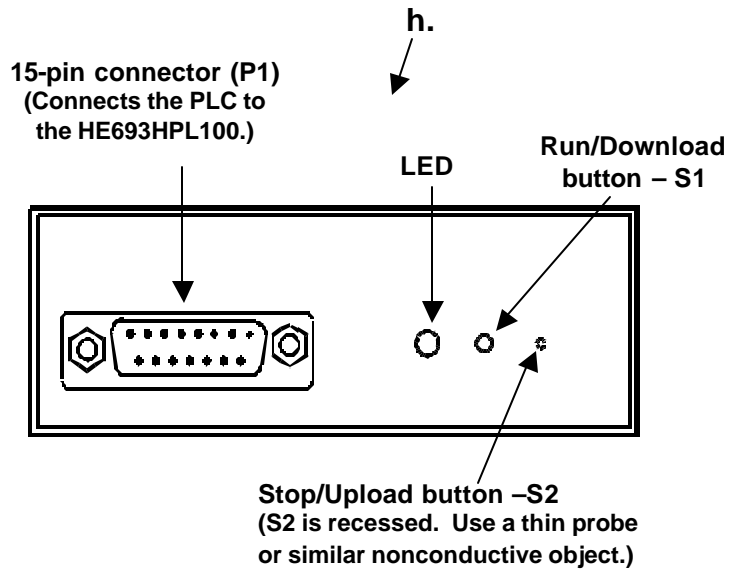

Figure 2.2 – Top View of HE690HPL100
- b. Connect the HE690HPL100 to the PLC by inserting an RS-422 cable into HE690HPL100 (P1). (Figure 2.2). Wait for a power-up status indication on the LED (Figure 2.2) as described in Table 2.1. It may take a couple of seconds for HE690HPL100 to provide the power-up status as it tries to setup communication with the PLC. **Go to Step 2.**
- c. Connect the HE690HPL100 to the PLC by inserting an RS-422 cable into HE690HPL100 (P1). (Figure 2.2).
- d. Press the GO or RUN/Download button (S1) and **hold down** while switching the PLC to “On.” Continue holding down S1 until the LED **blinks green**. Then, release S1. Wait for a Power-up Status indication on LED (Figure 2.2) as described in Table 2.1. It may take a couple of seconds for HE690HPL100 to provide the power-up status as it tries to setup communication with the PLC. **Go to Step 2.**
2. Wait for a Power-up Status indication on the LED (Figure 2.2) as described in Table 2.1.
Simply **press the Stop/Upload button (S2) and release**. The user needs to use a thin probe (or a similar nonconductive object) to press S2, because S2 is recessed. (Refer to Figure 2.2.). The status LED will show Operation in Progress (solid orange). Do ***not*** remove PC card when download operation is in progress. In this case, the program will be stored into RAM when it is eventually downloaded using a download operation. **Go to Step 4.**
Simply **press Stop/Upload button (S2) and hold until LED blinks orange (takes approximately 3 seconds)**. The user needs to use a thin probe (or a similar nonconductive object) to press S2, because S2 is recessed. (Refer to Figure 2.2.) If the button is released **before** the orange blink occurs, the program will ***not*** be copied into EEPROM during download. After the orange blink, the status LED will show Operation in Progress (solid orange). Do ***not*** remove PC card when download operation is in progress. **Go to Step 4.**
Simply **press and release the GO or Run/Download button (S1)** (Figure 2.2).
Press the GO or Run/Download button (S1) and hold *until* LED blinks orange (takes approximately 3 seconds) (Figure 2.2). If the Go button is released before the orange blink occurs, the reference tables will not be cleared upon download.